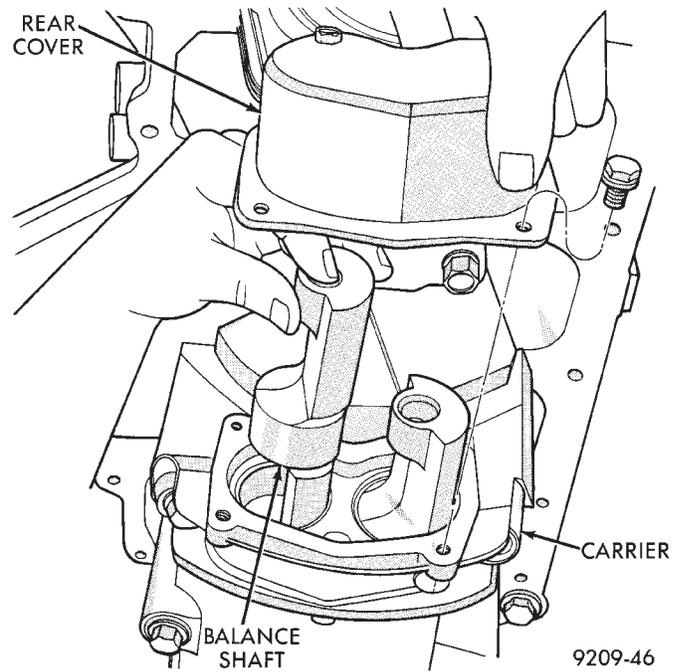

Fig. 19 Balance Shaft(s) Remove/Install
(4) Remove carrier rear cover and balance shafts. (Fig. 19).
- (1) With balance shafts installed in carrier (Fig. 19) position carrier on crankcase and install six attaching bolts and tighten to 54 N·m (40 ft. lbs.).